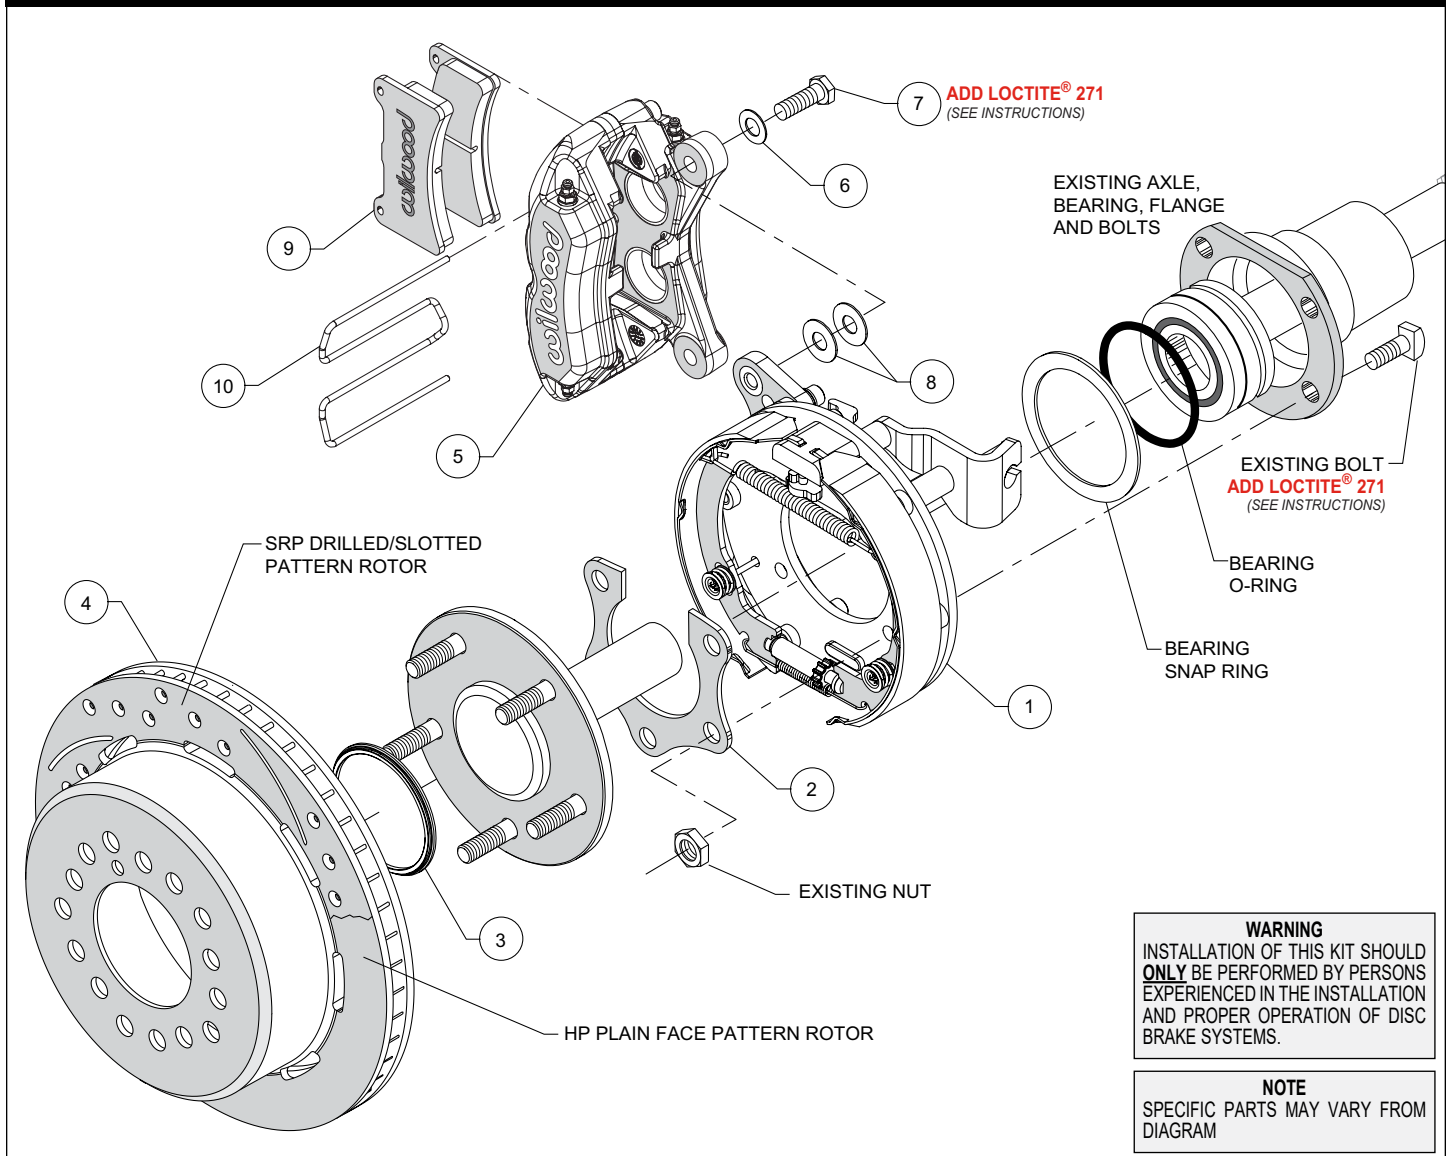

Figure 3. Typical Installation Configuration
NOTE: Numbers in parenthesis refer to the parts list and Figure 3 on the preceding pages.
• Temporarily remove the snap ring and o-ring from the bearing. Use care so as not to damage those components. Orient the bracket assembly (1) as shown in Figure 3 and Photo 1 and slide it onto the axle and past the bearing. Reinstall the snap ring and o-ring onto the bearing, again using care. Insert the axle and bracket into the axle housing. Ensure that the bracket assembly backing plate fits flush against the axle housing flange. **NOTE:** The bearing snap ring should be sandwiched between the axle housing flange and the new bracket assembly.
• Install the bearing retainer (2) with the opening pointing upward and the bearing relief step facing inward (toward the bearing), as shown in Figures 3 and 6, and Photo 2. Secure retainer and bracket assembly to the axle housing flange using the Original Equipment Manufacturer (OEM) bolts and nuts, Figure 3. Apply red *Loctite*® 271 to the OEM bolt threads and torque to OEM specifications.
• Slide the rotor registration adapter (3) onto the axle register on the axle flange with the smaller O.D. facing toward the rotor/hat (4), Photo 3. Align the correct hole pattern in the rotor/hat with the stud pattern on the axle flange and slide into place, Figure 3 and Photo 4. **NOTE:** The rotor/hat must fit flush against the axle flange or excessive rotor run out may result. Install three lug nuts (finger tight) to keep the rotor/hat assembly in place while continuing with the installation. **NOTE:** Some OEM and after market axles come with stud sizes larger than 0.50" diameter. Verify stud size and have a qualified machine shop drill the bolt circle of the hat/rotor to the correct stud size, if necessary.
• **NOTE:** Please reference the caution statement at the beginning of the assembly instructions. Mount the caliper (5) onto the caliper mounting bracket (1) using bolts (7) and washers (6), as shown in Figure 3. Initially place two .035" thick shims (8) on each bolt between the caliper and the bracket, Photo 5. Temporarily tighten